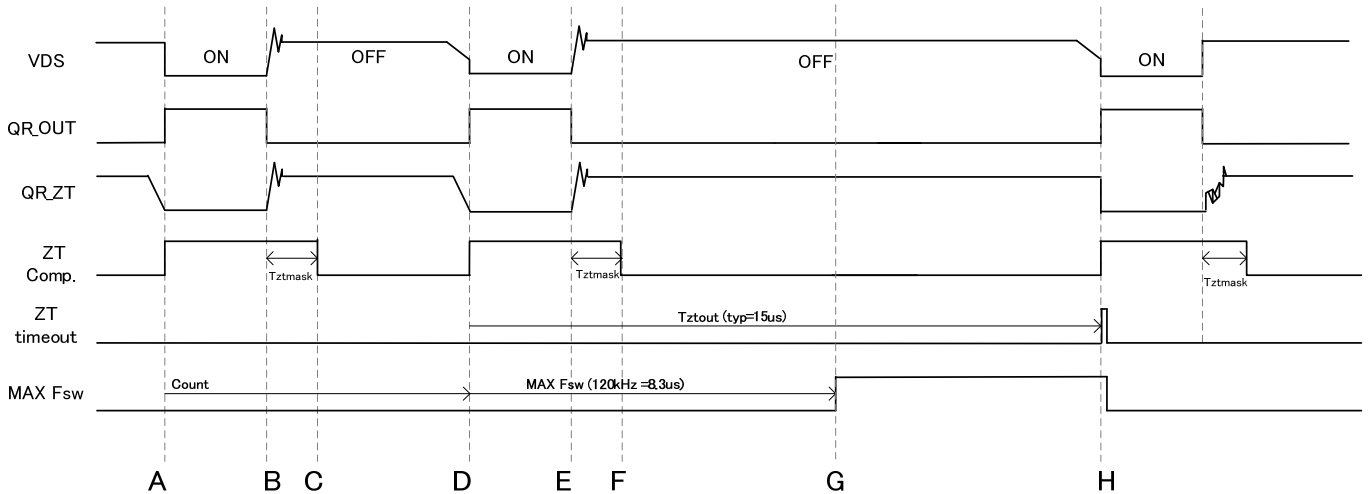

Figure 34. ZT Time out Function
**(5-6) ZT time out function(Figure34)**